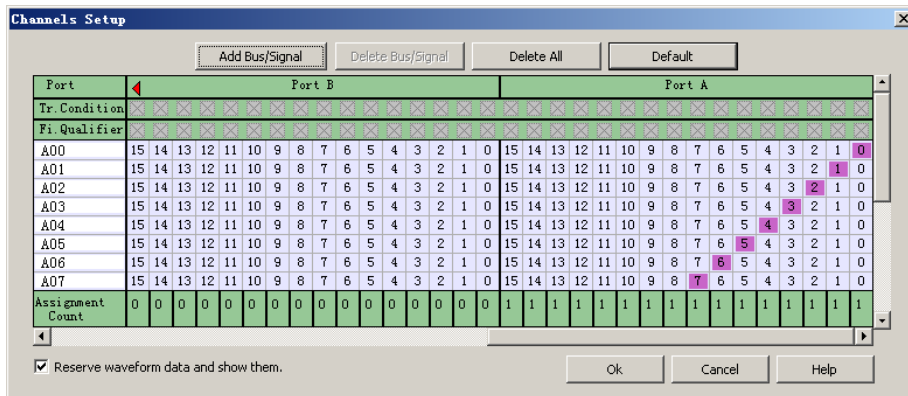

Fig 4-31 – Renaming Bus
Rename the Bus and set up the channels of the Bus as shown in Fig 4-31.
2. Go to the relative channels as shown in Fig 4-31 and go to numbers 3, 4, 5, 6 which are located on column Port A and row Bus1. Click them to become purple, and then set these segments of signals.